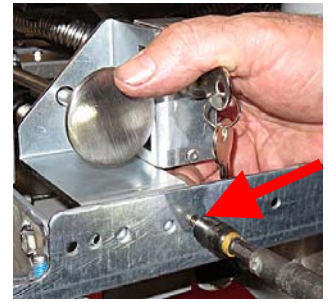

Figure 84
82. Attach the dispose valve bracket to the frame (see Figure 84).